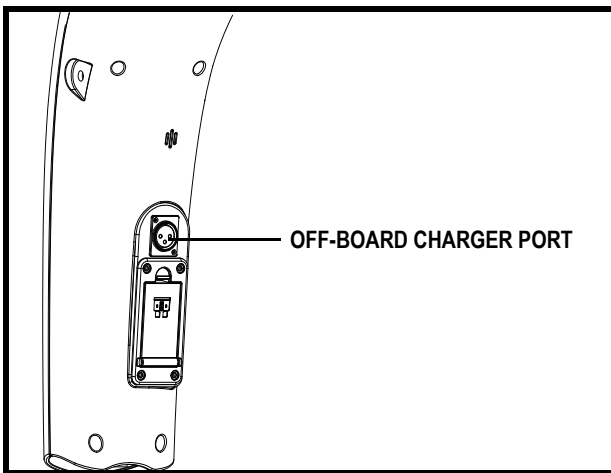

Figure 5. Off-board Charger Port
The off-board charger power cord plugs into this port during battery charging. The off-board charger port is located on the tiller. See **figure 5**.
4. Plug the 3-pin charger power cord into the off-board charger port. **See figures 5 and 11.**